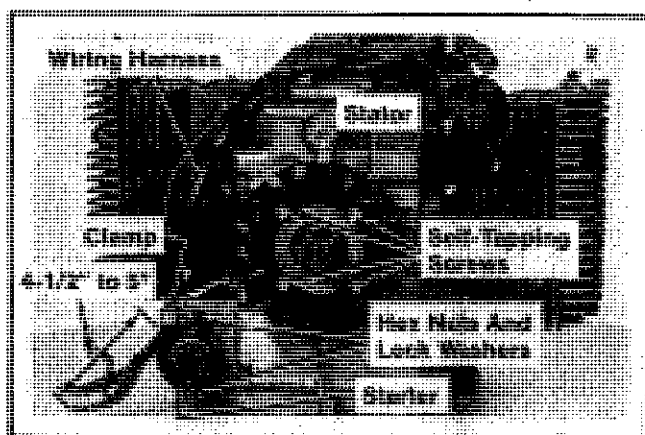

Figure 11-35. Installing Stator And Electric Starter.
1. Install the stator and self-tapping screws. Refer to Figure 11-35.
1. Install the starter, wiring harness clamp, split lock washers, and hex nuts. Refer to Figure 11-35.